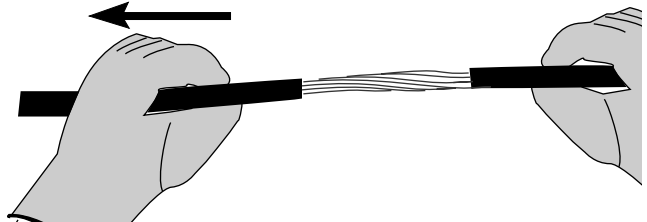

Figure 5
4.5 Slide the 10-cm (4 in.) section of sheath off the cable and discard it (Figure 5).